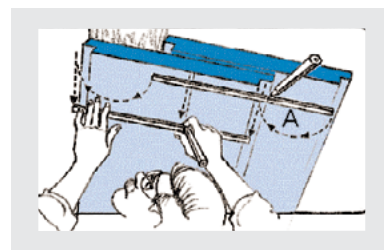

Figure 3
1. Styrofoam™ Brand Wallmate™ Insulation can be installed in tight spaces, even if the wall is uneven. Position insulation board squarely against corner, overlapping inside edge of last board installed (Figure 3).